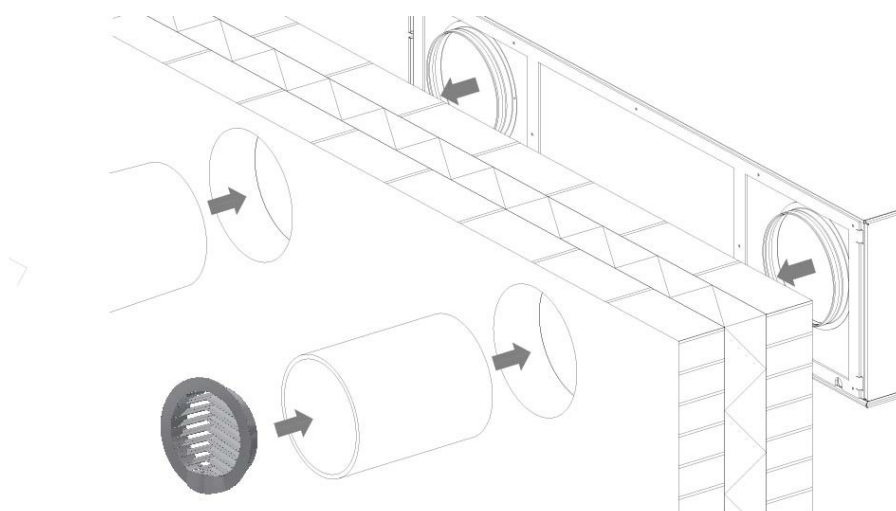

Figure 17: Duct pipes and grilles - general overview
Figure 17 provides a general overview.
- An outside grille must be mounted. Please refer to our website for more information on the Boomerain® grille shown in Figure 17 above.